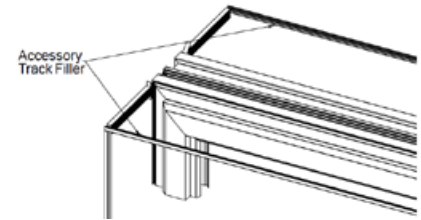

Figure A1
5. Fill all exterior accessory tracks and top interior accessory track, if applicable. (**Figure A1**)